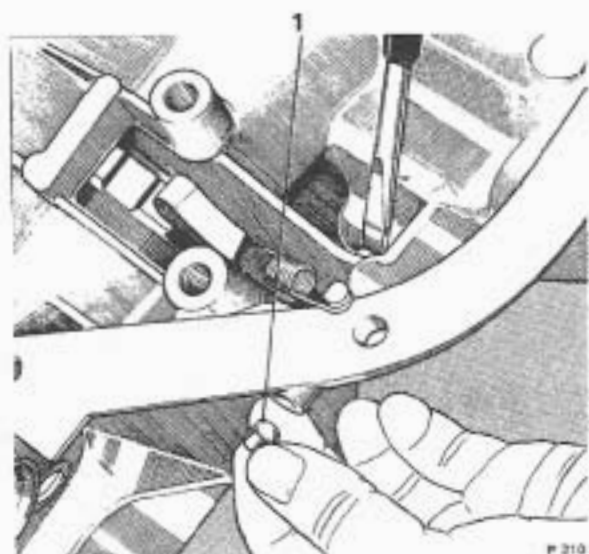

FIG. T234 REMOVING CUP PLUG
15. Remove the spring retainer from the parking pawl shaft. Remove the parking brake pawl shaft cup plug by placing screwdriver between parking pawl shaft and case rib and prying outward (see Fig. T234).